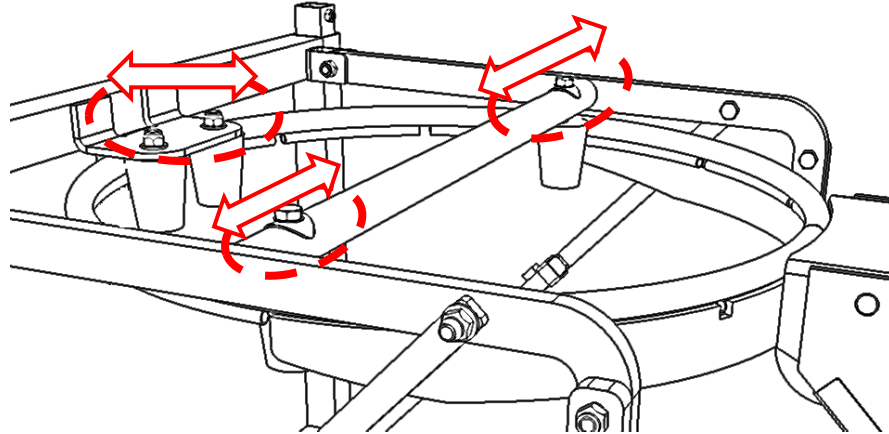

Figure 2 (Goal Adjustment)
- 2) Set the Little Champ frame on the rim and adjust the bumpers, along the front bracket and side rail (without Little Champ backboard or rim installed). As rims may vary slightly in dimension and degree of out-of-roundness, the first step is to adjust the bumpers so the frame is snug within the rim (see Figure 2).